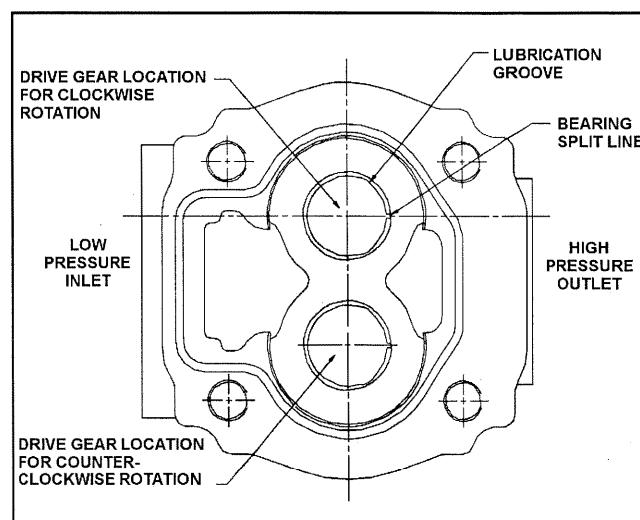

Figure 2: Bearing Orientation in Pump Body For Clockwise & Counter-Clockwise Rotation
1. Lightly oil bearing outside diameter with mineral oil prior to insertion. Ensure orientation of lubrication slots on bearings is correct. Orientation, which varies according to pump shaft input rotation, is shown in Figures 2, 3 and 4.